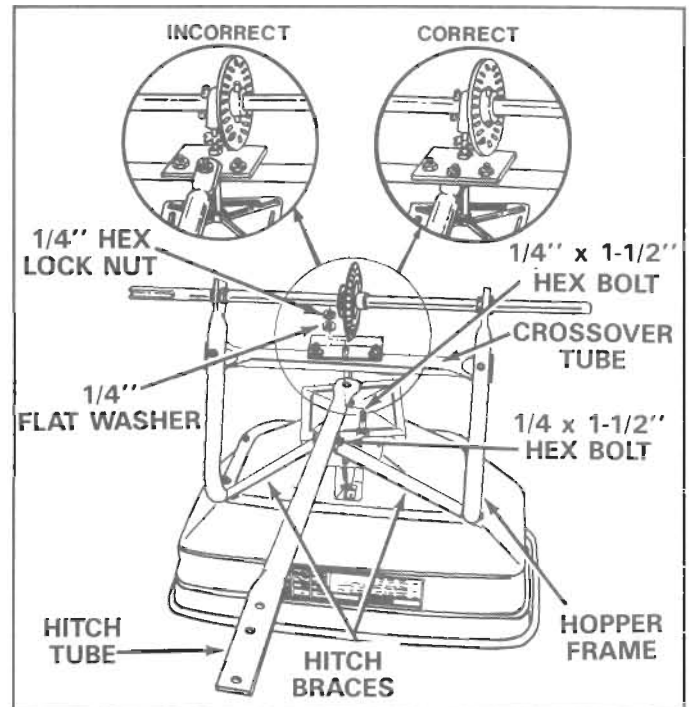

FIGURE 4
- 4. Assemble two hitch braces to the inside of the hopper frame, one each side, using two 1/4" x 1-1/2" and two 1/4" hex lock nuts. See figure 4. **DO NOT TIGHTEN AT THIS TIME.**
- 6. Align the holes in the ends of the two hitch braces with the nearest hole in the hitch tube, secure with 1/4" x 1-1/2" hex bolt and 1/4" hex lock nut. See figure 4.